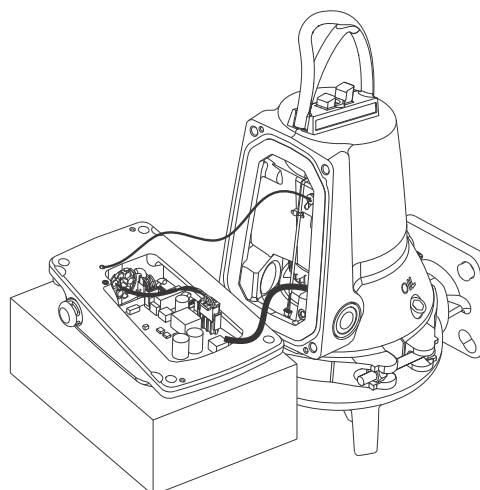

Fig. 18 Pump in the vertical position
4. Raise the pump to the vertical position. See fig. 18.